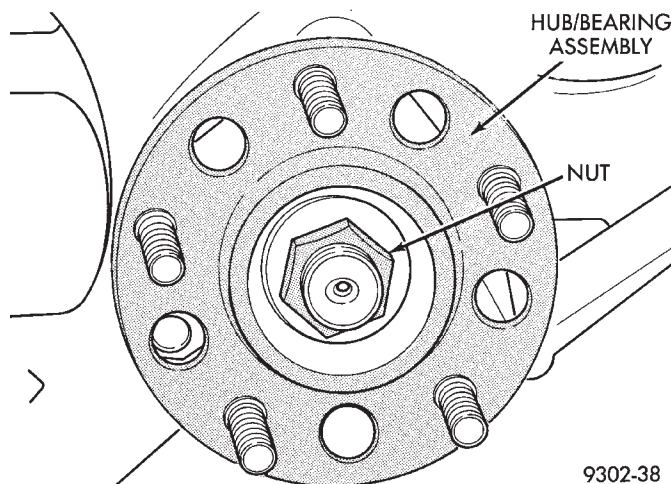

Fig. 10 Hub And Bearing To Stub Axle Retaining Nut
CAUTION: The hub and bearing assembly to stub shaft retaining nut (Fig. 10) is a prevailing torque
(3) Install a **NEW** hub and bearing assembly to stub shaft retaining nut (Fig. 10). **Tighten, but do not torque the hub nut at this time.**